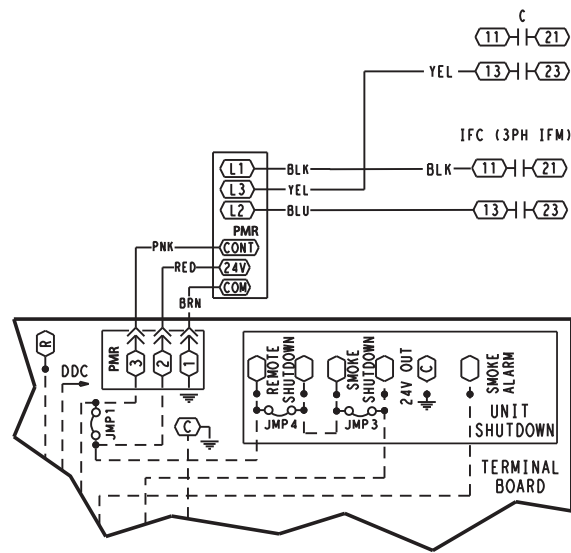

Fig. 6 - Wiring Diagram
On the indoor fan contactor (IFC), connect the black wire to terminal “11” and the blue wire to terminal “13.” On the compressor contactor (C), (C1) or (C2), connect the yellow wire to terminal “13.” (See Fig. 6.)